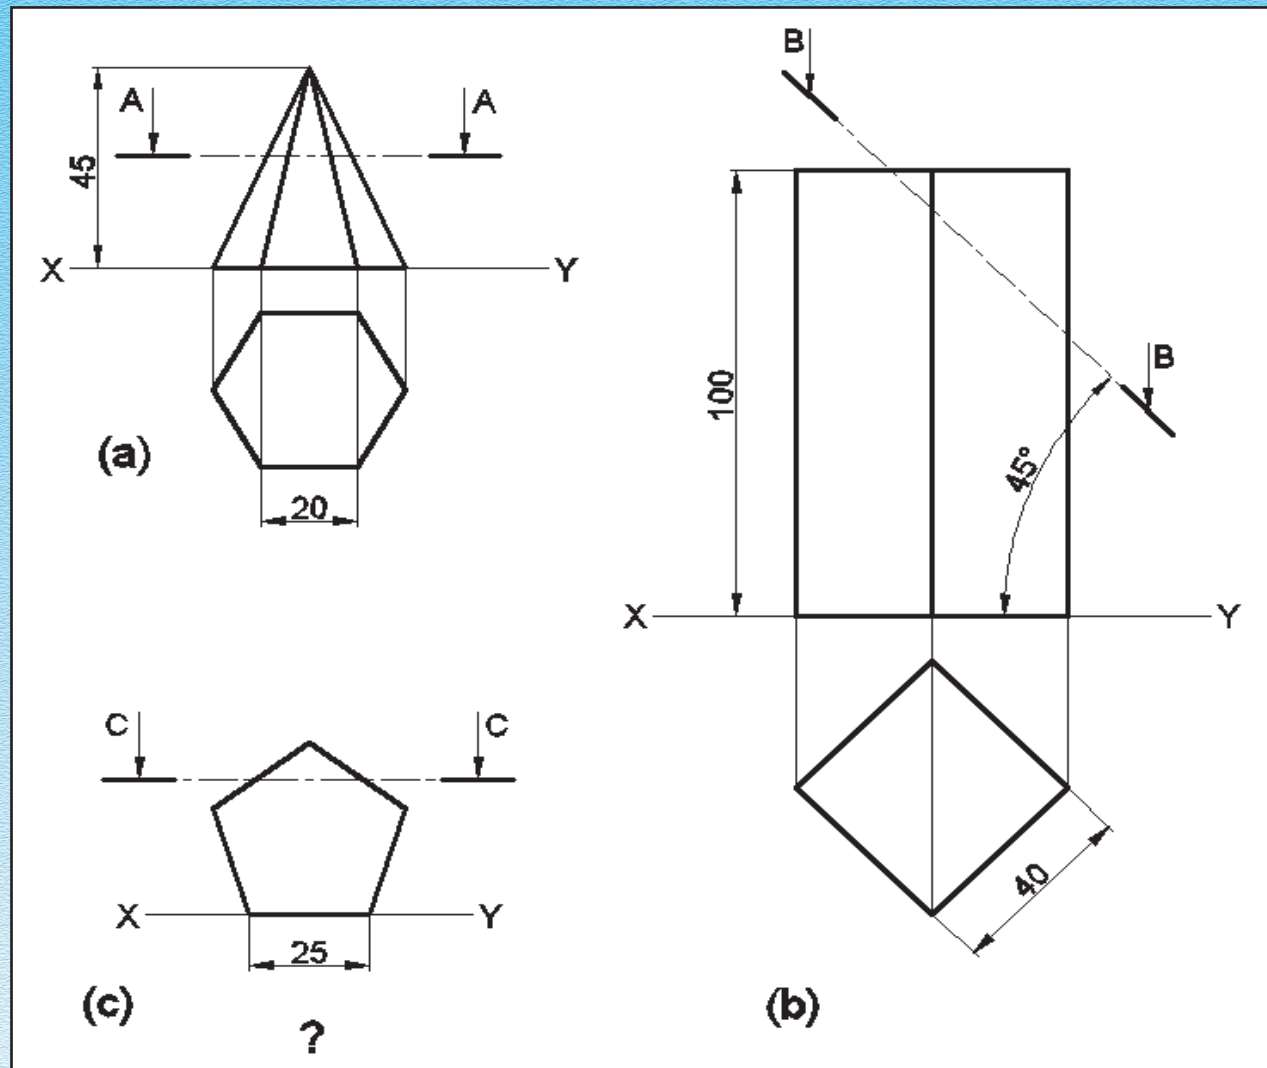

Fig. 5.25
1. A Front View of a regular hexagonal pyramid is cut centrally by a section plane A-A. Complete the Top View and draw the section Fig. 5.25(a).
2. A Top View and an incomplete Front View of a square prism are shown in Fig. 5.25(b). The prism is cut by a 45° inclined section plane at a distance of 20 mm from one of the corners. Draw the given Front View, complete the Top View and add the section.
3. A pentagonal prism of length 60 mm is shown resting on HP in Fig. 5.25 (c) which is cut by section plane C-C parallel to HP at distance of 10 mm from top most long edge. Draw the given Front View, and add the sectional Top View.